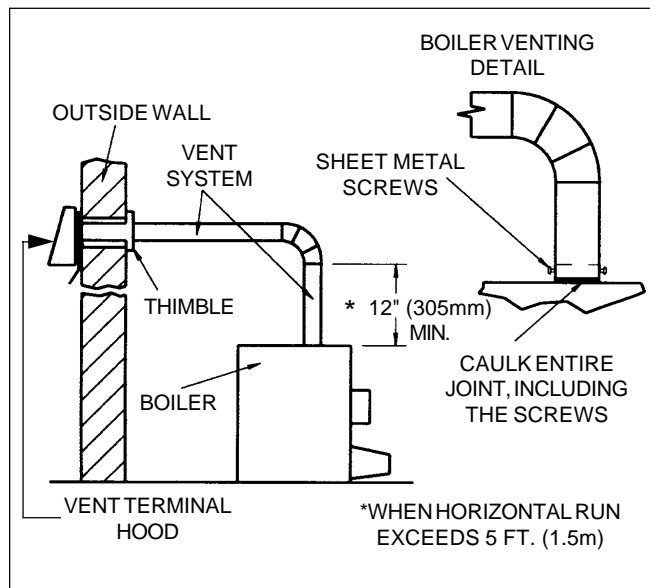

Figure 7. Horizontal Venting.
The boiler vent collar must be fastened to the vent pipe of the same diameter, with rustproof metal screws no longer than 1/2" (13mm) and sealed with high temperature (500°F / 260°C) silicone sealant. For larger diameter vent pipes, use a sealed reducer fastened directly to the boiler collar and seal all joints as indicated in Figure 7. Allow the sealant to cure for 24 hours before operating the boiler.
1. Attach a vertical pipe at least 12" (305mm) high to the boiler outlet before the horizontal run if run exceeds 5 feet (see Figure 7).